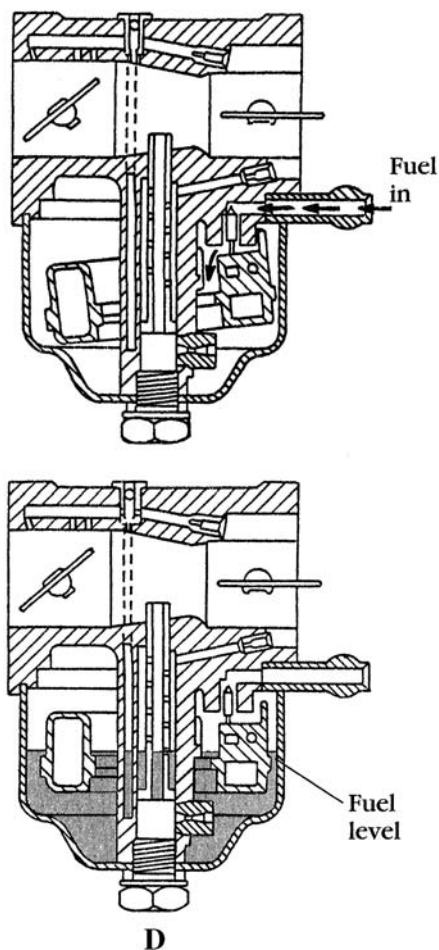

FIG. 4-1 (Cont.). *A float-operated inlet valve, or the needle and seat, maintains a constant fuel level in the instrument (D). Briggs & Stratton Corp.*
FIG. 4-1. *At wide throttle angles, fuel enters the venturi through the main pick-up tube, better known as the high-speed nozzle. (A) An air bleed (“main air jet”) emulsifies the fuel, breaking it into droplets prior to discharge. Briggs & Stratton Corp.*
FIG. 4-1 (Cont.). When the throttle blade is closed, the low-speed circuit discharges into the primary idle port. As the blade opens, it uncovers secondary idle ports (C). Wider throttle angles generate flow through the main jet. Briggs & Stratton Corp.